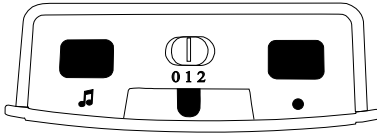

Figure 2: Receiver, upper side
Using the signal mode slide switch (in fig. 2 "0 1 2") you can select the signal mode. Kindly keep in mind that the symbols are always displayed with coloured light diodes.
- a) Keep the function button »••« (fig. 2) pressed for some time. The icons light up in sequence. Let go of the button as soon as you see the desired icon.